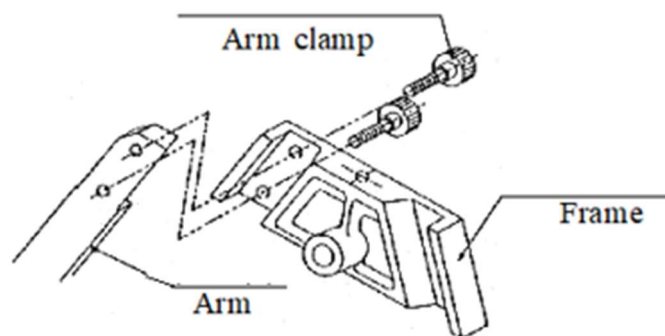

Fig.1 Frame and Arm assembly
(1) Assembly of the Frame and Arms (Figure 1)